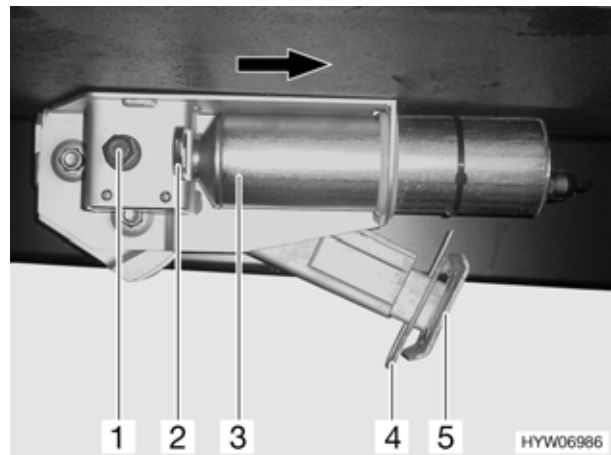

Fig. 24 Electrical steady leg
- Remove the splint (Fig. 24,4) out of the support foot extension (Fig. 24,5).
- Press the securing bracket (Fig. 24,2) inwards.
- Push the motor in the direction indicated (Fig. 24,3) as far as it will go.
- Fold the steady leg out or in like a mechanical steady leg via the hexagonal nut (Fig. 24,1).